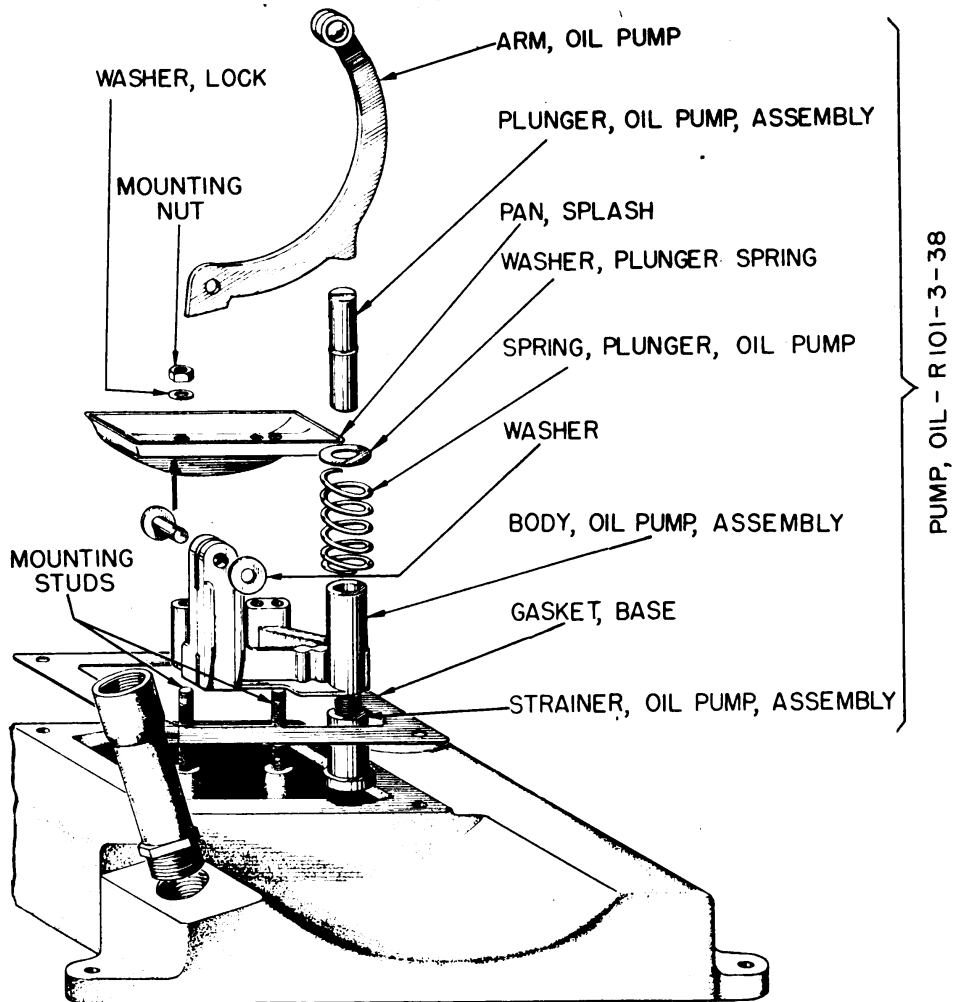

Fig 67. Engine oil pump disassembled, showing Chemical Warfare Service nomenclature of parts.
In emergencies, using personnel may replace this unit. (Fig 67)
k. Remove oil pump by loosening mounting nuts and lock washers holding it to mounting studs. (Fig 67)
b. Drop new pump onto mounting studs and tighten mounting nuts and lock washers to hold it firmly in place. (Fig 67)
c. In reassembling engine, be sure that pump arm roller (fig 67) rides on engine valve cam. This can be adjusted by turning flywheel as needed. Burner is difficult to replace due to tight fit. With a little juggling -- and patience -- however, this part will slip back in place.